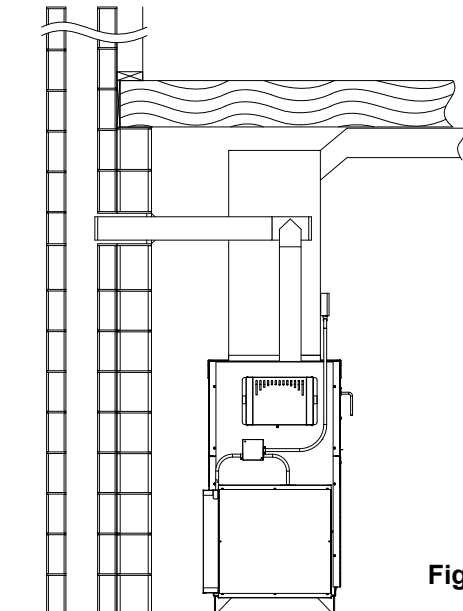

Fig. 24
**Certain Canadian and Local Codes may require that the chimney be fully relined. See Fig. 24.**